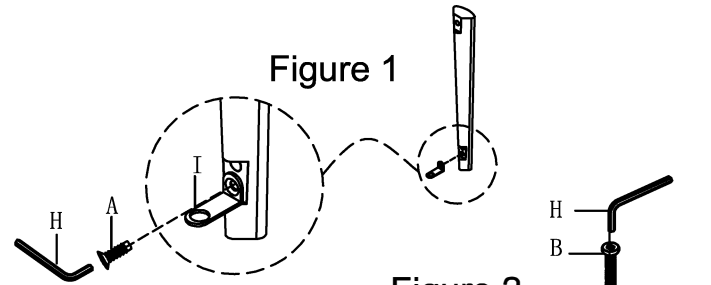

Figure 1
1. Attach L-shaped metal bracket (I) to table leg, tighten Countersunk Bolt (A) by using Allen Wrench (H) as shown in Figure 1.